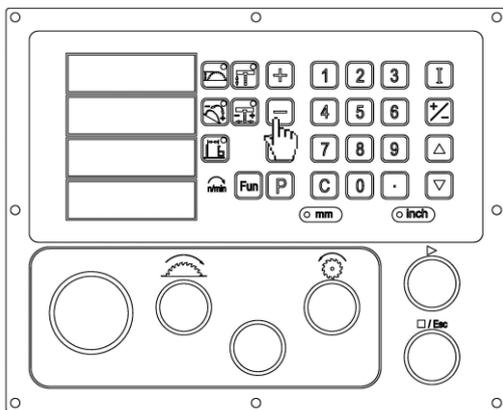

Fig.3-5-1
1. Turn the hand wheel to make the saw lower to the bottom (as Fig. 3-5-1).